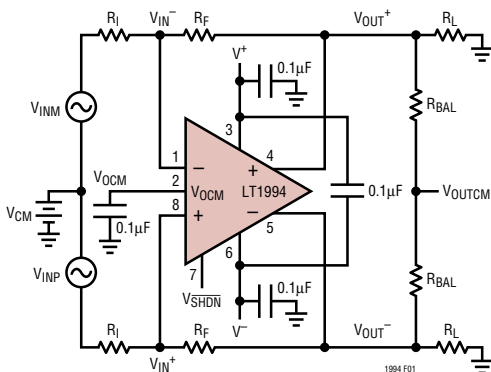

Figure 1. Test Circuit
**Note 7:** Input Common Mode Range is tested using the Test Circuit of Figure 1 ( $R_F = R_I$ ) by applying a single ended  $2V_{P-P}$ , 1kHz signal to  $V_{INP}$  ( $V_{INM} = 0$ ), and measuring the output distortion (THD) at the common mode Voltage Range limits listed in the Electrical Characteristics table, and confirming the output THD is better than  $-40dB$ . The voltage range for the output common mode range (Pin 2) is tested using the Test Circuit of Figure 1 ( $R_F = R_I$ ) by applying a  $0.5V$  peak, 1kHz signal to the  $V_{OCM}$  Pin 2 (with  $V_{INP} = V_{INM} = 0$ ) and measuring the output distortion (THD) at  $V_{OUTCM}$  with  $V_{OCM}$  biased  $0.5V$  from the  $V_{OCM}$  pin range limits listed in the Electrical Characteristics Table, and confirming the THD is better than  $-40dB$ .
a need for ADCs to process signals differentially in order to maintain good signal to noise ratios. These ADCs are typically supplied from a single supply voltage that can be as low as 2.5V and will have an optimal common mode input range near mid-supply. The LT1994 makes interfacing to these ADCs trivial, by providing both single ended to differential conversion as well as common mode level shifting. Figure 1 shows a general single supply application with perfectly matched feedback networks from OUT+ and OUT-. The gain to VOUTDIFF from VINM and VINP is:
The input impedance looking into the  $V_{INP}$  or  $V_{INM}$  input of Figure 1 depends on whether or not the sources  $V_{INP}$  and  $V_{INM}$  are fully differential. For balanced input sources ( $V_{INP} = -V_{INM}$ ), the input impedance seen at either input is simply: